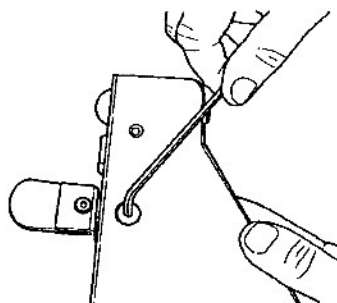

Fig. A-44
52. Tighten the screw, as in Fig. A-44, then set aside the fence base.